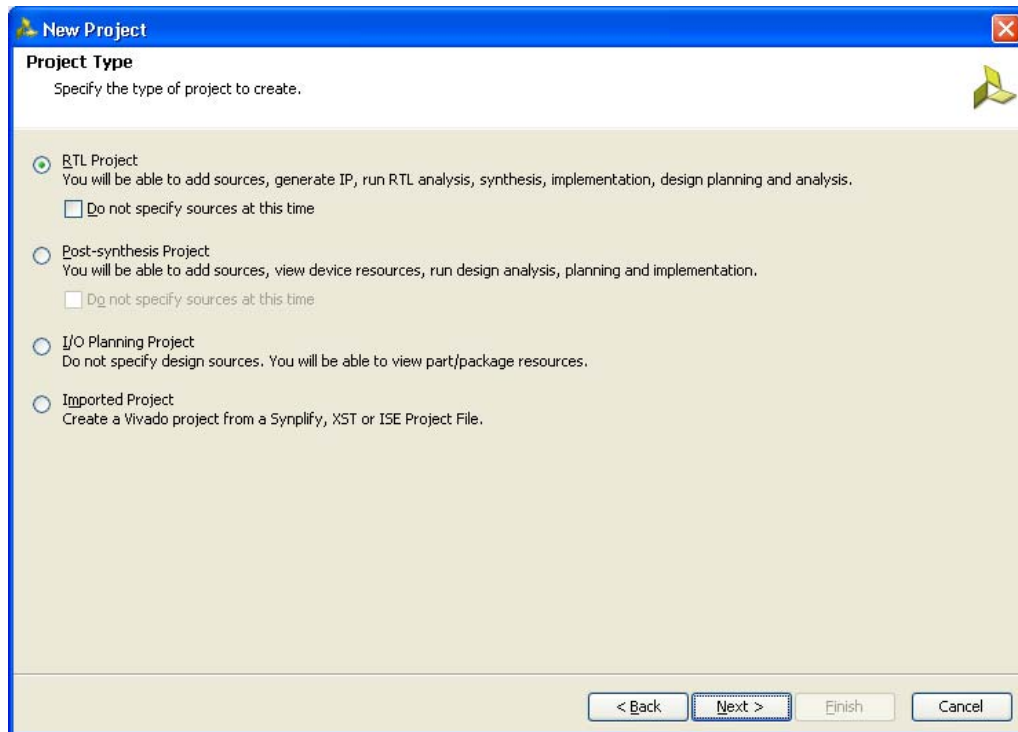

Figure 2-4: Project Type
- Click **Next** to proceed to the **Project Type** page (Figure 2-4). Select the **Project Type** as **RTL Project** because MIG deliverables are RTL files.